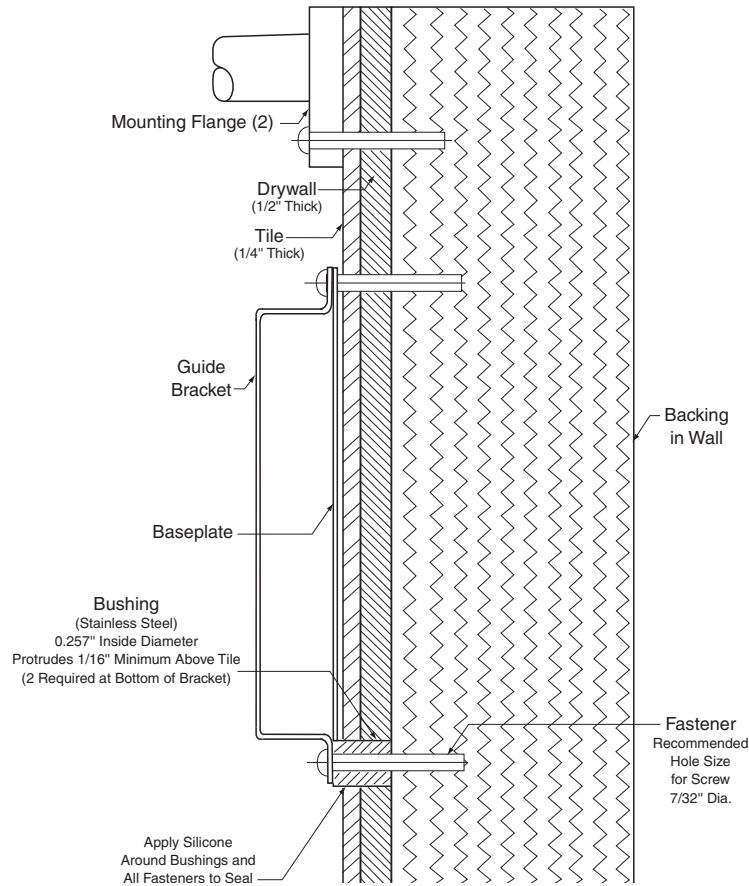

Figure 3
- D. Drill holes in wall for appropriate fasteners (see Figure 3). Install fasteners.